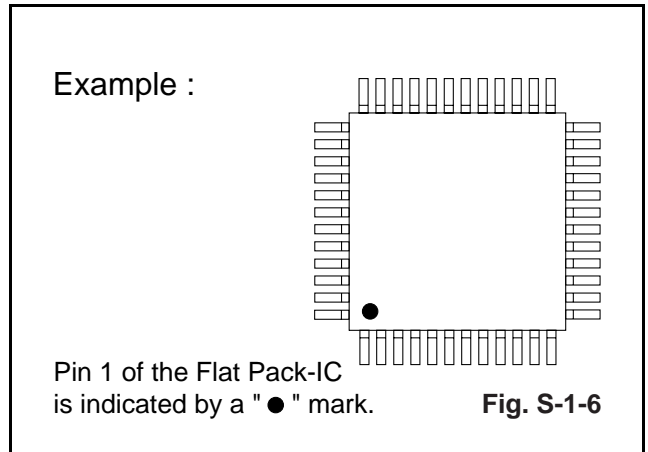
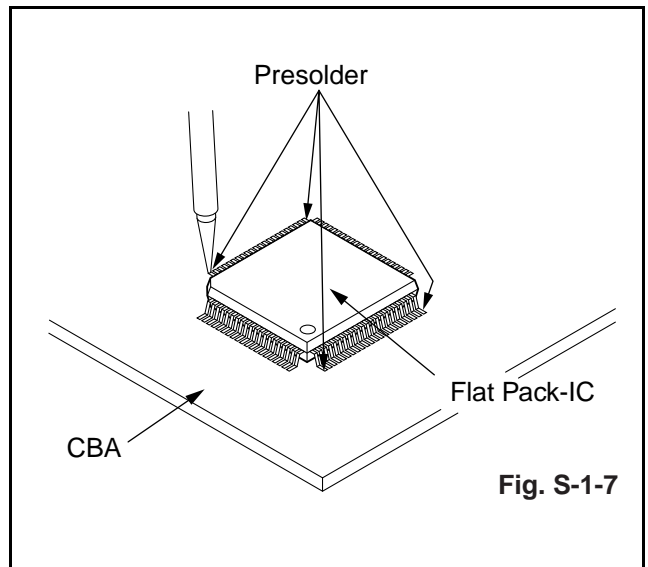

Fig. S-1-6
Fig. S-1-7
- b. The "●" mark on the Flat Pack - IC indicates pin 1 (See Fig. S-1-6). Make sure this mark matches the 1 on the CBA when positioning for installation. Then pre - solder the four corners of the Flat Pack-IC (See Fig. S-1-7).